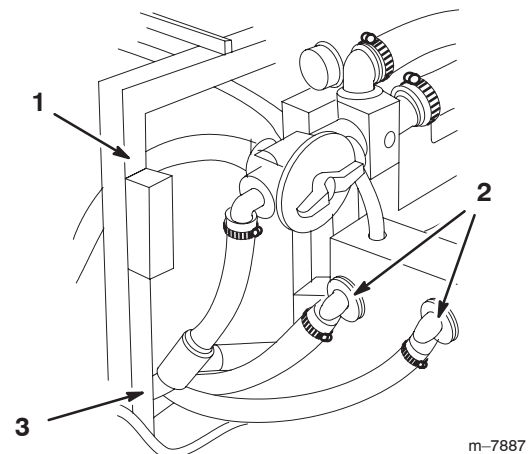

Figure 13
12. Route the hoses from the supply tee and control valve between the hose reel support frame and tank as shown in Figure 13.